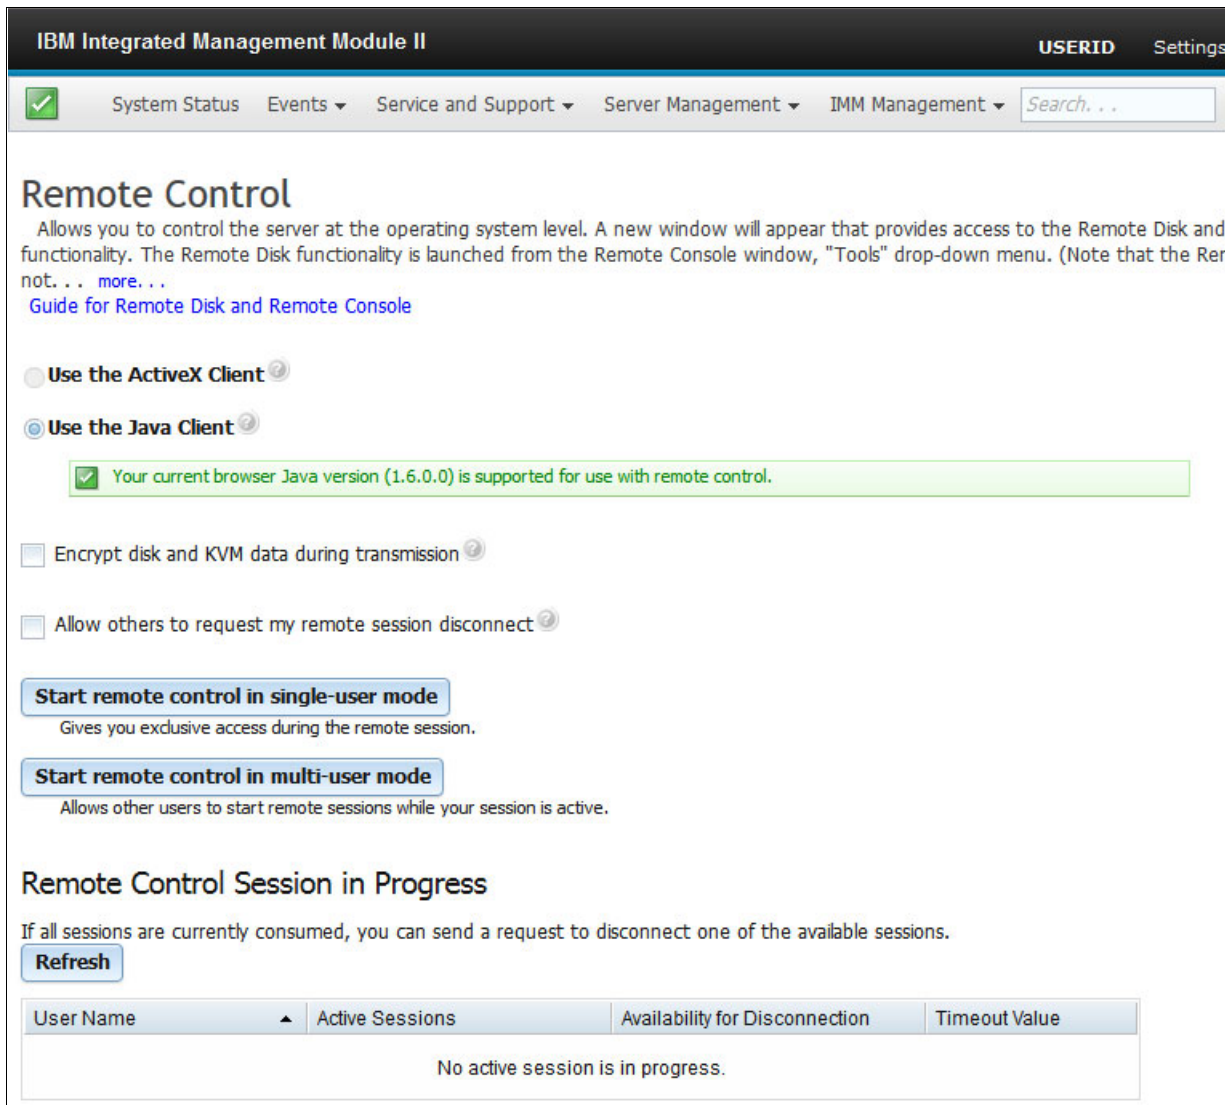

Figure 6-3 Starting remote console from IMM2
3. In the Remote Control window, click **Start remote control in single-user mode**, as shown in Figure 6-3. Clicking this button starts a Java applet on the local desktop that will be a console session to the FSM.